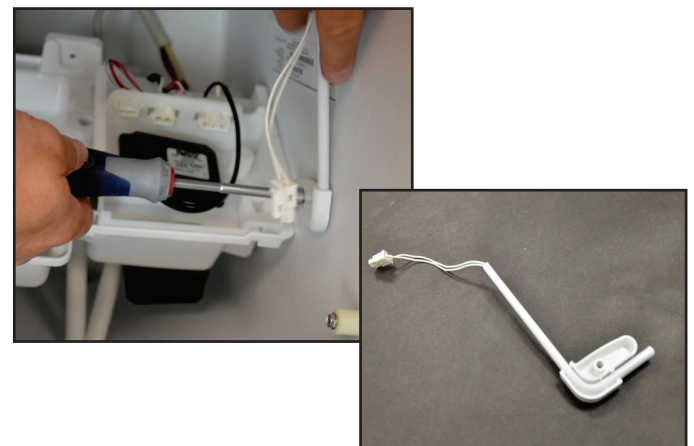

FIGURE 11
7. Remove 1 screw and the thermistor. See *Figure 11*.